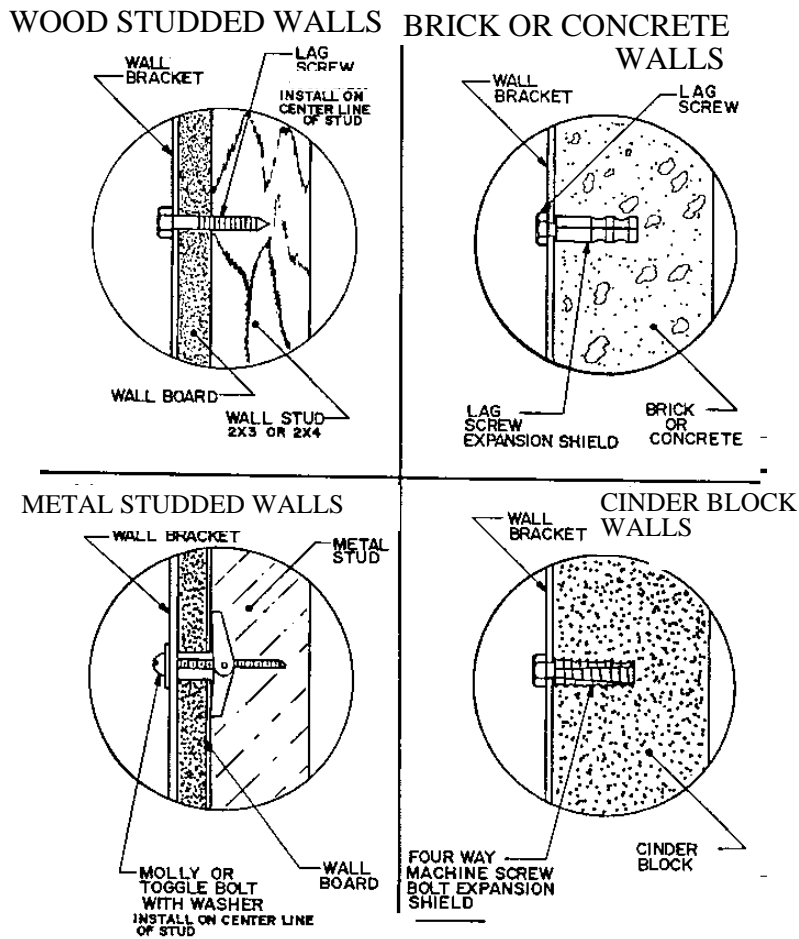

Figure 10 - WALL STUDS
**REFER TO FIGURES 10, 11 and 12 FOR STEPS 1 THROUGH 8.**